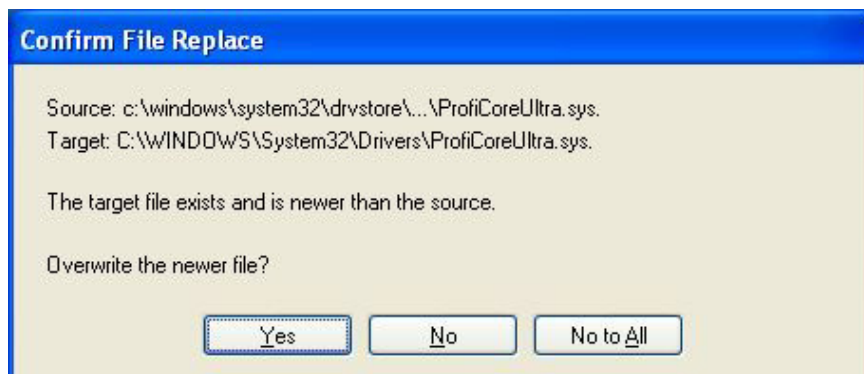

Fig. 4 – Warning prior to replacing drivers (confirm with Yes)
- ☐ Install the new version on-top of the directory from the previous version. If you are confronted with a warning about existing drivers which seems to be newer (see **Fig. 4**), just click 'Yes' and overwrite them.